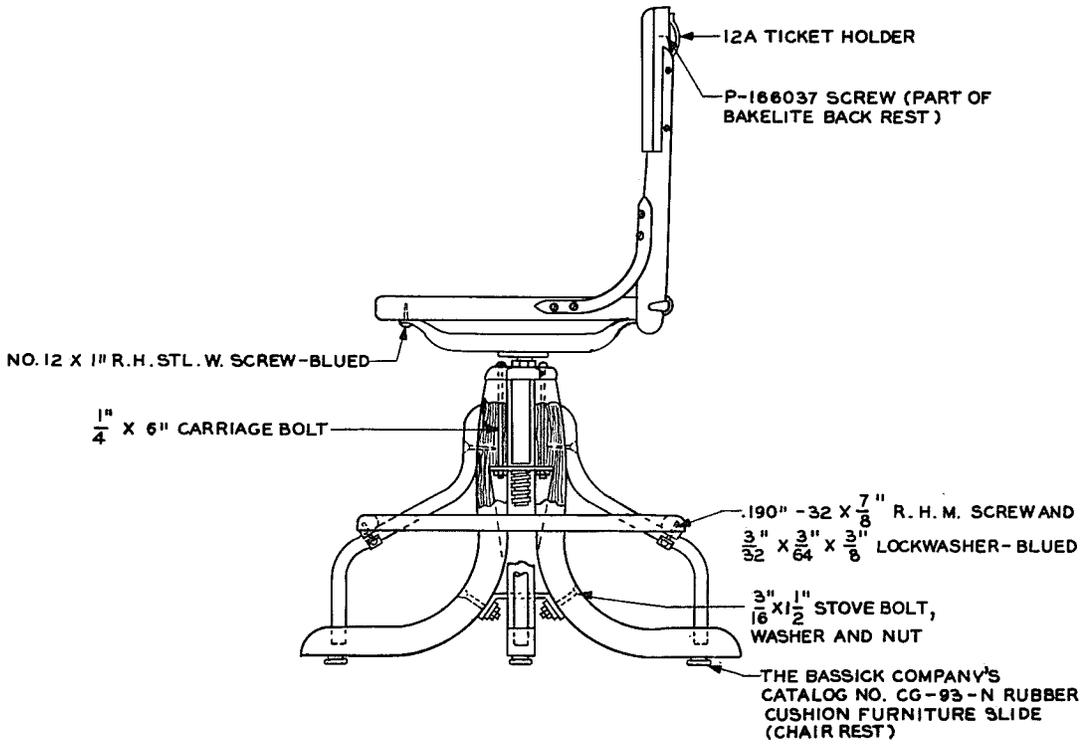

Fig. 1 - KS-5168 Bentwood-type Operator Chair (Center Spindle)
2.05 Lower units of operator chairs of the type shown in Fig. 1 that require replacement of a rubber-covered foot ring, should be returned to the Western Electric Company.